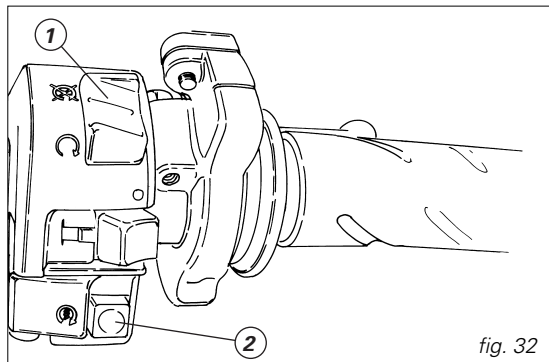

fig. 32
- 3) Check that the stop switch (1, fig. 32) is positioned to **○ (RUN)**, then press the starter button (2).